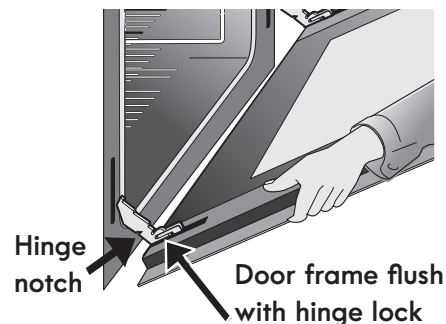

Figure 37: Remove door position
4. Pull the bottom of the door toward you while rotating the top of the door toward the appliance to completely disengage the hinge levers (Figure 37).
1. Firmly grasp both sides of oven door along the door sides. Do not use the oven door handle (Figure 37).
2. Hold the oven door at the same angle as the removal position. Carefully insert the hinge levers into the oven frame until you feel the hinge levers are seated into the hinge notches. The hinge arms must be fully seated into the hinge notches before the oven door can be fully opened. (Figure 37).